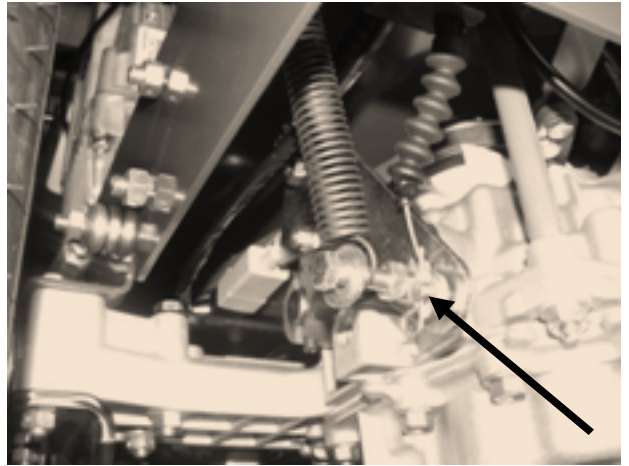

Figure 45
6. Remove hairpin cotter and washer **Figure 45.**